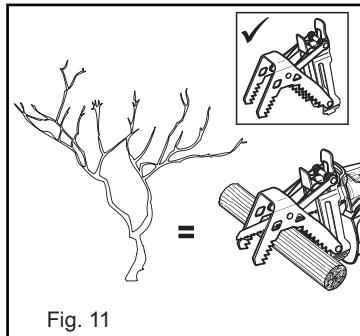

Fig. 11
The Serrated Gripping Jaw (1) helps to guide and support the material while cutting small branches, limbs or poles (diameter less than 2.37" 60mm) (Figs. 11, 12).